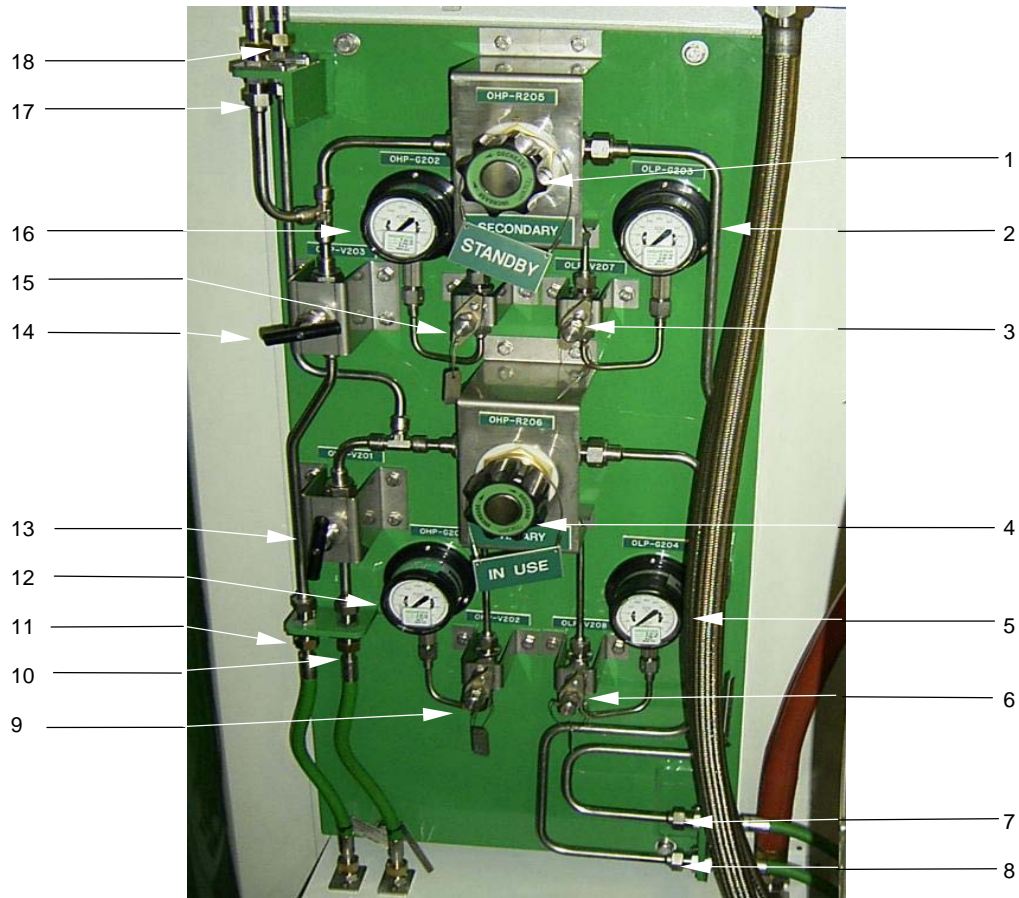

Figure 2-7. Oxygen Reducing Station
**2-5.3 OXYGEN (O2) REDUCING STATION.** The Oxygen Reducing Station (see Figure 2-7) is located on the bulkhead of the shipping van below the HP Air Reducing Station. The Oxygen Reducing Station, through installed piping, hoses, valves, and reducers, lowers the pressure from the four onboard oxygen cylinders, or other certified oxygen racks listed in section 1-3.1.6, to between 75 and 100 psi for use in the BIBS. An O2 monitor mounted above the onboard O2 cylinders (see Figure 7-2) sounds an alarm if the O2 level in the SNDLRCS van exceeds recommended levels.
Table 2-3 shows the functions and normal operating conditions for the Oxygen Reducing Station components identified in Figure 2-7.